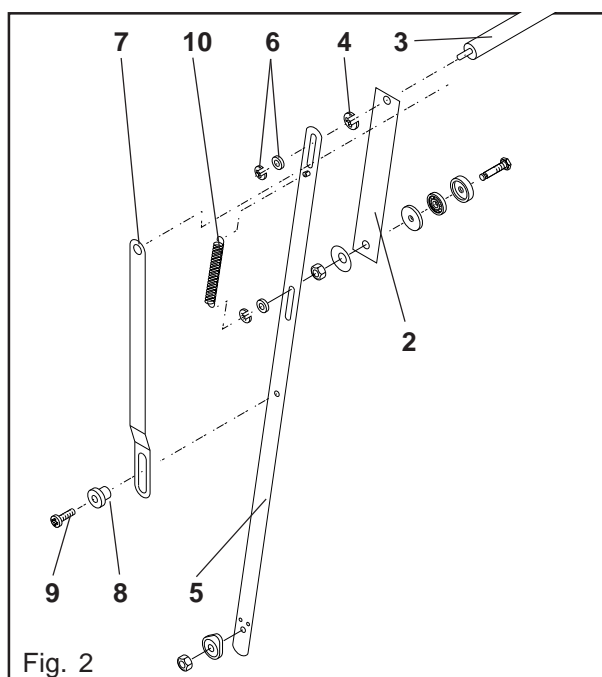

Fig. 2
- Fasten the lever arm (7) with the collared bushes (8) and fastening screws (9). (Fig. 2)
- Hinge the spring (10) for the scraper arm. (Fig. 2)